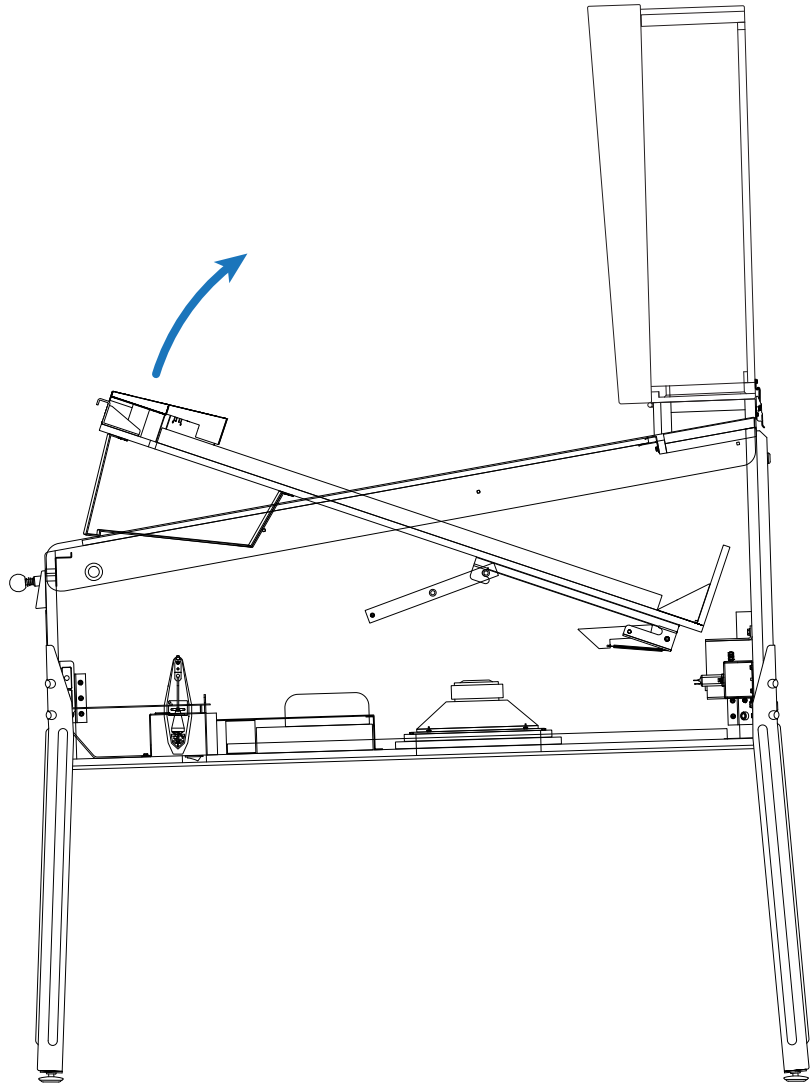
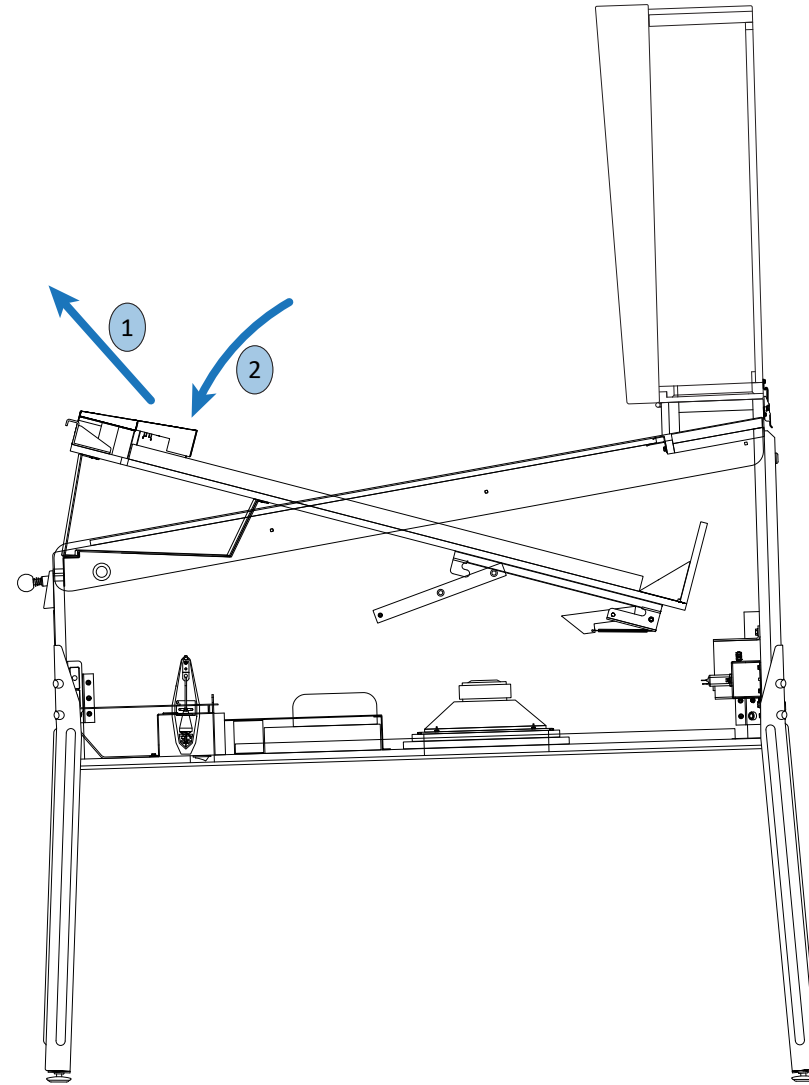

Figure 1-13. Swing the playfield upward.
Figure 1-14. Moving the playfield to position 2.
15) Grasp the playfield under its bottom arch and swing it upward until the playfield support brackets underneath are fully visible (figure 1-13). Move the playfield to position 2 (figure 1-14). **1** Pull it upward and outward until the support bracket feet reach the top of the lock-down bar receiver; then **2** lower the playfield, resting the feet in the steel channel.